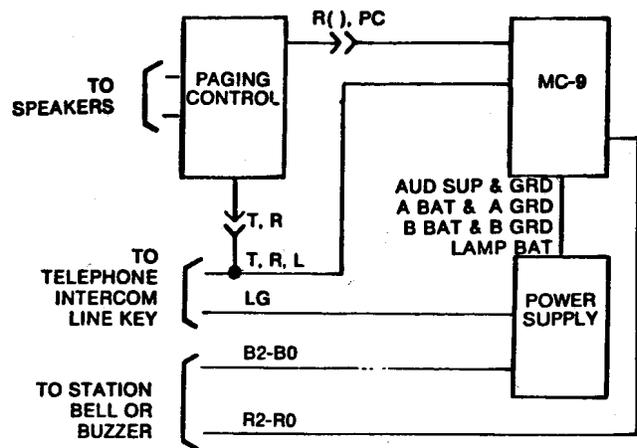

Fig. 3
3.05 Applications schematic of MC-9 is shown in Fig. 3.